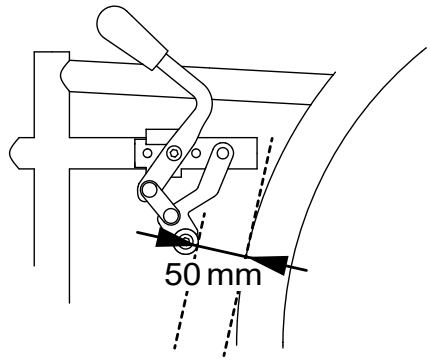
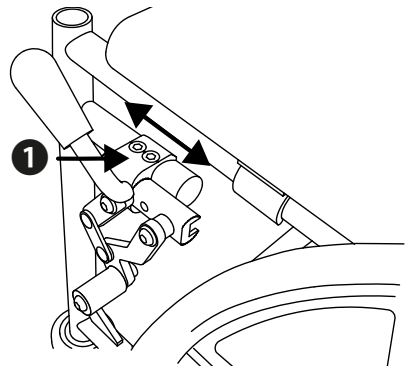

Fig.4
Fig.5
1. The distance between the brake pin and tyre casing must be 50 mm at the narrowest point when the brake is fully open (Fig. 4).
2. Make sure that the distance between the brake bolt and the tire cover is 50 mm (Fig. 4), when installing the brake fastening adapter (1, Fig. 5).
3. Subsequently, re-tighten the connection (1, Fig. 5) and repeat the steps on the other side for the second parking brake.
When using the optional height adapter, the distance between the brake bolt and the tire cover must also be 50 mm. To correct this, loosen the fastening adapter of the brake again and bring it into the correct position (1, Fig. 5).
**Orientation marker:** The red markings on the frame and on the brake include the fastening adapter of the brake (1, Fig. 5) on the right and left side, when standard mounting without the height adapter set. \_\_\_\_\_
1. Insert the back frame tubes from above into the rear tubes of the base frame (1, Fig. 5).